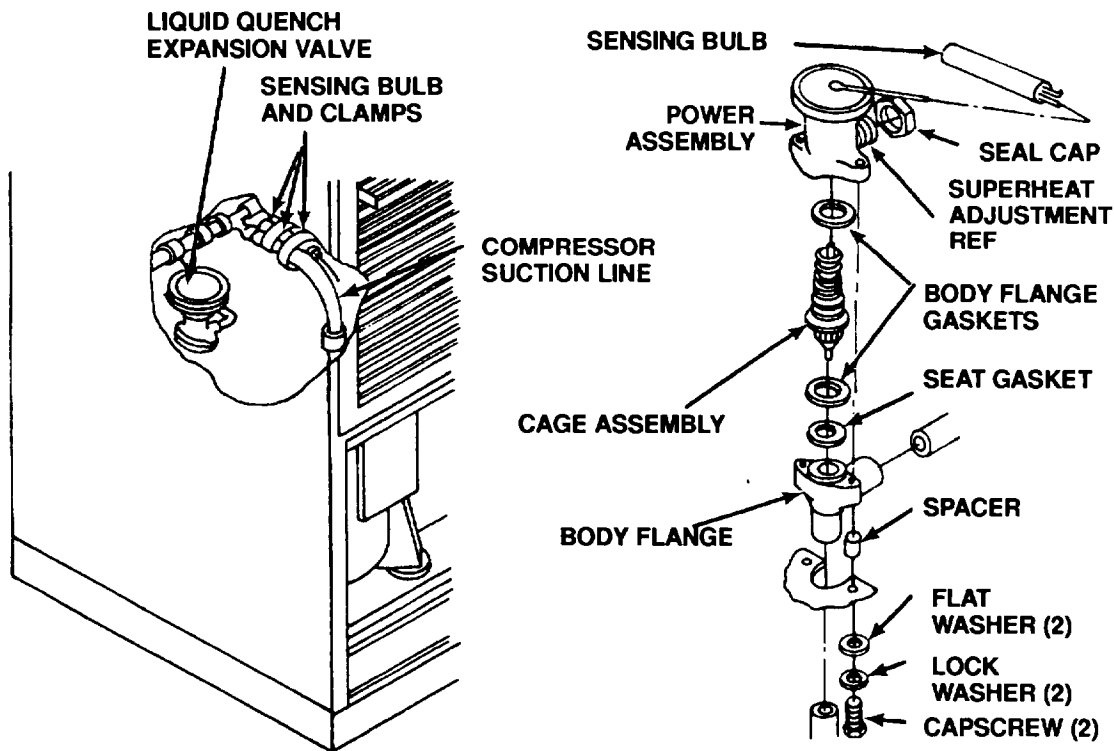

Figure 5-17. Liquid Quench Expansion Valve
- (1) If valve body flange was removed, purge the system with nitrogen while brazing the two tubing joints. (See para 5-8 and 5-9.)
- (2) See Figure 5-17 for valve component arrangement.
- (3) Place capscrews, lockwashers, flat washers, and spacers through bracket and valve body flange.
- (4) Be sure that valve components are properly assembled and aligned. Secure power assembly to body flange.
- (5) Insert sensing bulb into its mounting loop clamps in its original position, and tighten the screws and nuts. Be sure sensing bulb is installed in the original position and is making good metal-to-metal contact with suction line.
- (6) Reinstall insulation tubing that was removed from sensing bulb and liquid quench expansion valve connections. Secure insulation tubing with tape (item 14, Appendix E.)
- (7) Replace the dehydrator. (See para 5-14.)
- (8) Leak test all newly connected joints and those in the repaired area. (See para 5-10.)
- (9) Evacuate and charge the refrigerant system. (See para 5-11 and 5-12.)
- (10) Install junction box. (See para 4-46.)